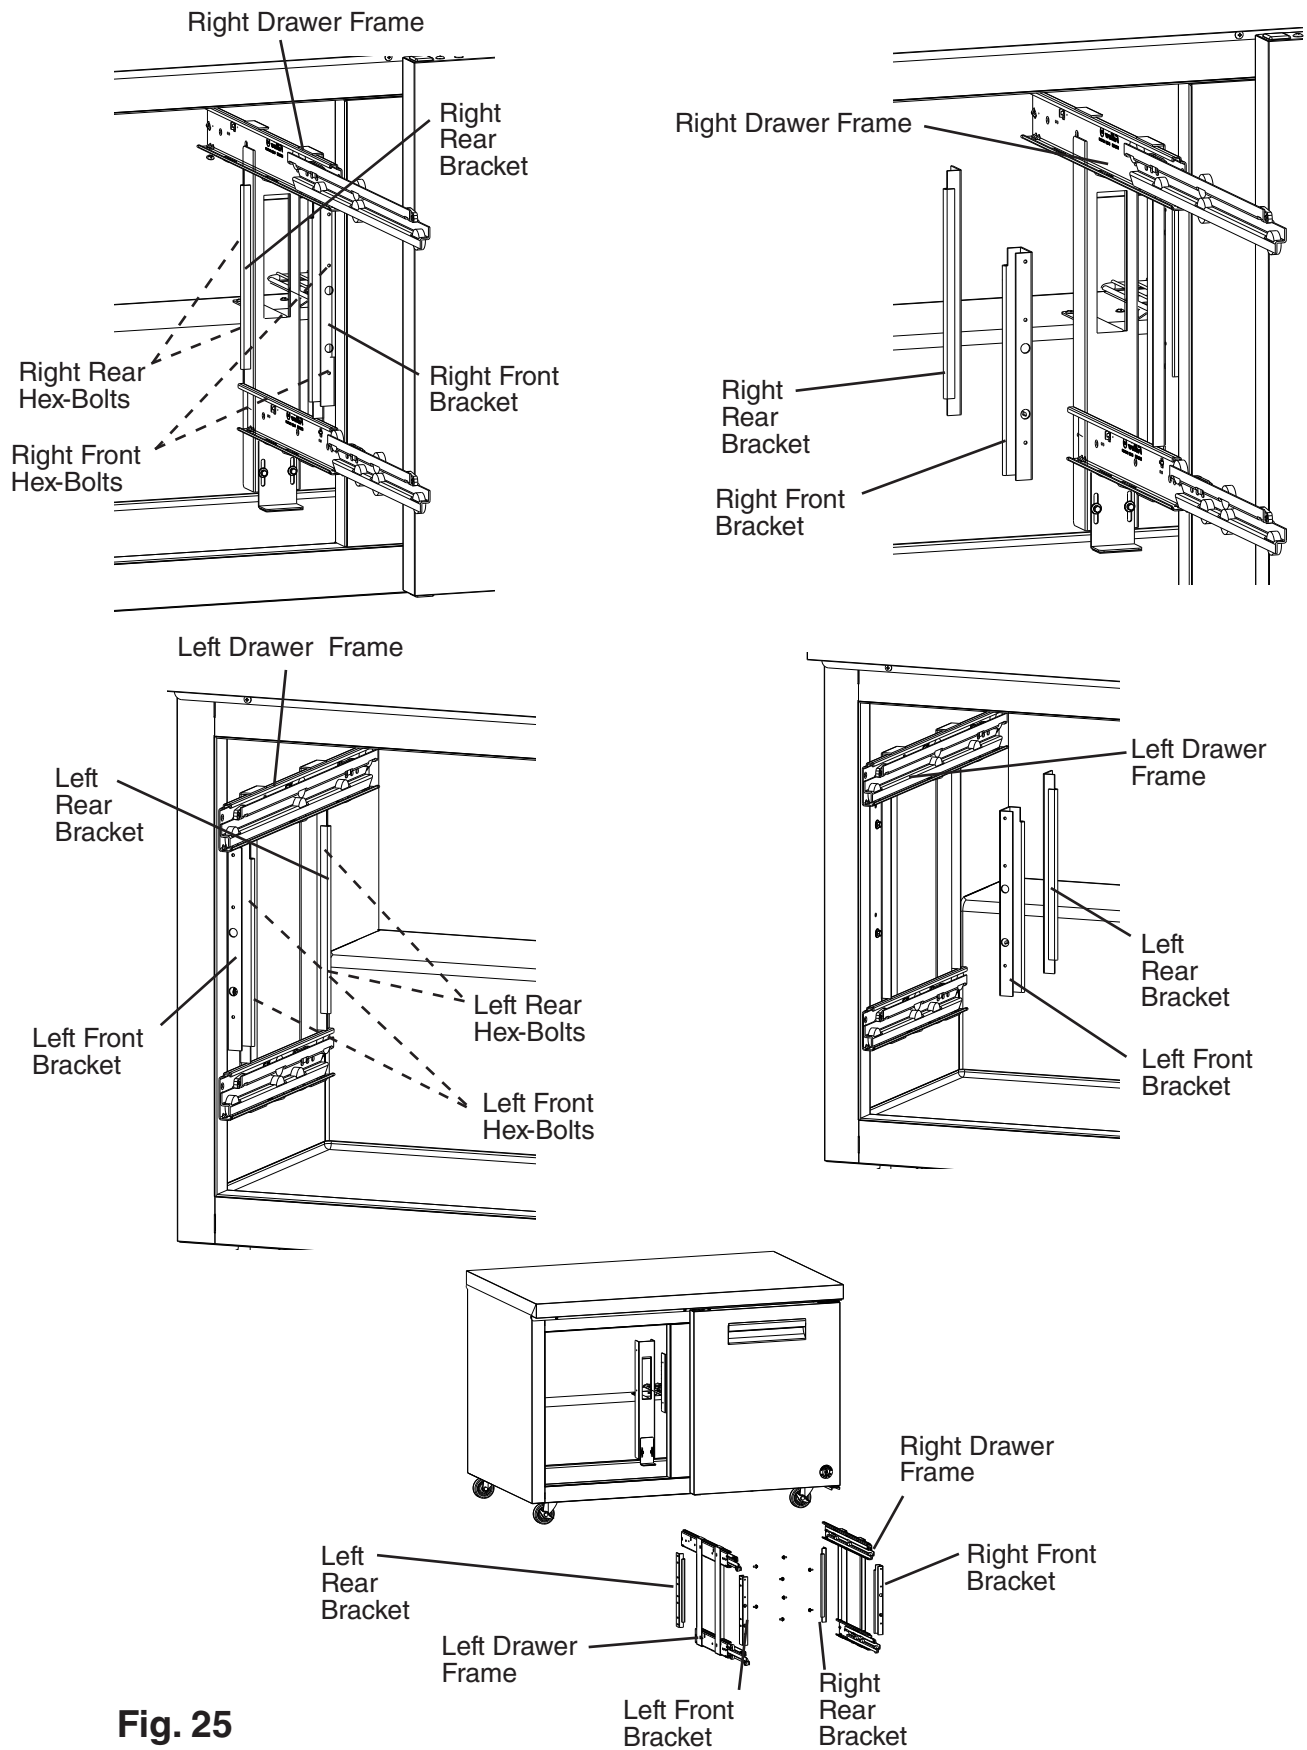

Fig. 25
4) Remove the hex-bolts from the 2 right (front and rear) and 2 left (front and rear) brackets (2 hex-bolts per bracket), then remove the right and left drawer frames. See Fig. 25.